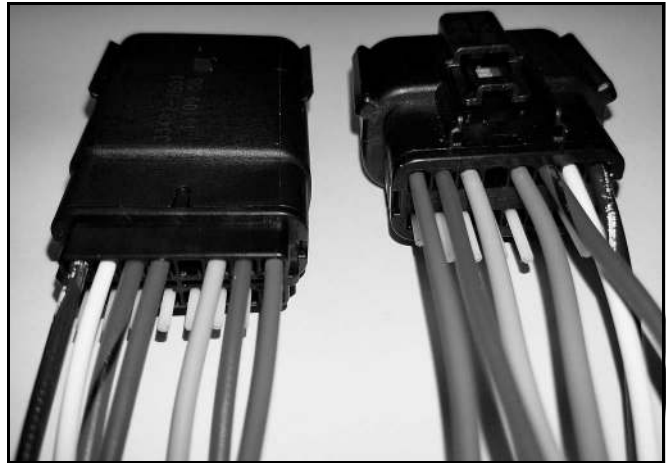

Figure 18
- B. Install the loose wires from the Main EIS Adapter harness (96116724) into the empty pin locations (pin 4) of the Headlight adapters. (See Figure 18.)